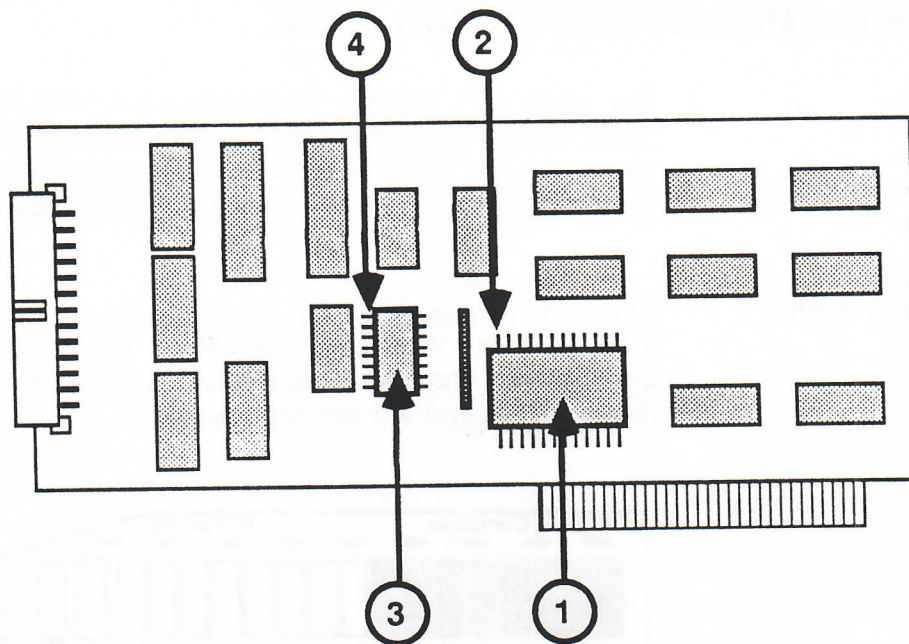

FIGURE 2
1. On the IC at C6 (Figure 2, #1) locate pin 12 (Figure 2, #2).
2. On the IC at B4 (Figure 2, #3) locate pin 1 (Figure 2, #4).